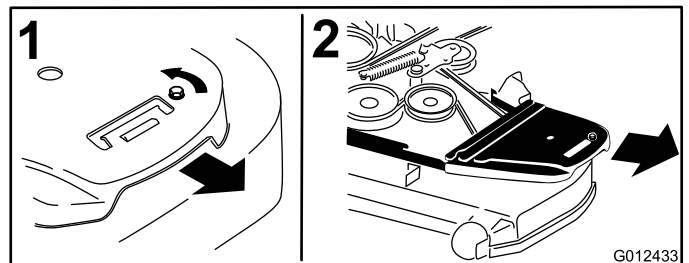

Figure 57
4. Remove the belt covers and the bolts attached to them (Figure 57).